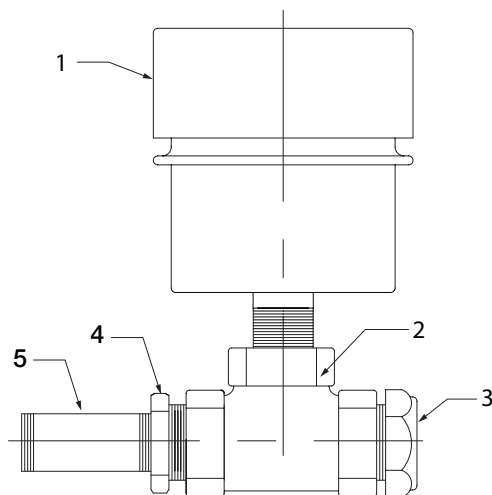
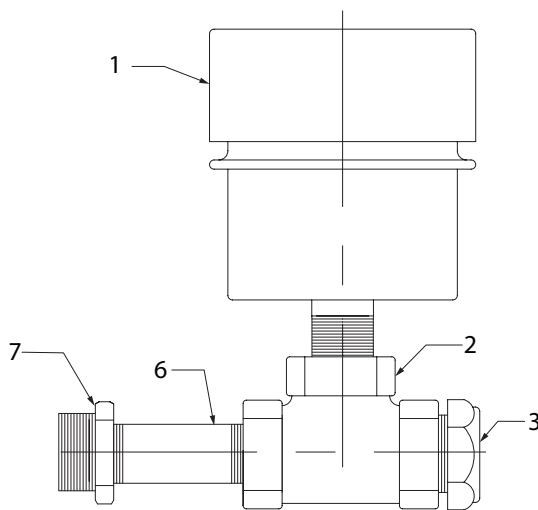

Figure 1-Position D Breather Kit (MTA2 – MTA3)
Figure 2-Position D Breather Kit (MTA4 – MTA8)
1. Assemble position D breather kit as shown in Figure 1 (MTA2 – MTA3) or Figure 2 (MTA4 – MTA8).
② 1	Expansion Chamber	240053	1	1
② 2	1/2 Pipe Tee	034720004AB	1	1
② 3	Oil Sight Gauge	430121
② 4 ③	1/2 x 3/8 Hex Bushing	034600006AB	1	–
② 5 ③	Pipe Nipple 3/8 x 3	034530024CB	1	1
② 6 ④	Pipe Nipple 1/2 x 3	034530024DB	1	1
② 7 ④	3/4 x 1/2 Hex Bushing	034600010AB	–	1
- ① Refer to Figure 1 or Figure 2
- ② Makes up assembly under which it is listed
- ③ This part is used only on MTA 2 - MTA 3
- ④ This part is used only on MTA 4 - MTA 8